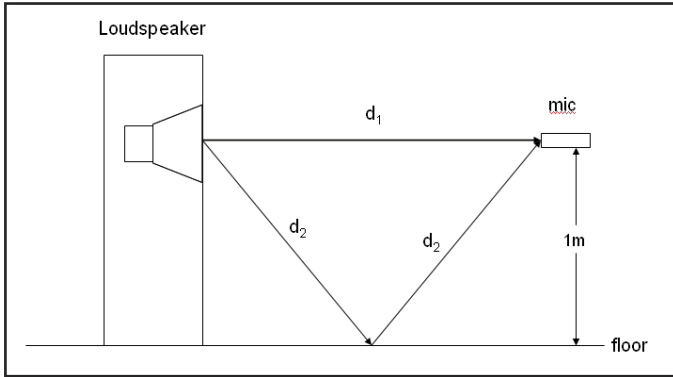

Figure 6: Test setup
*Loudspeaker Frequency Response:* Loudspeaker frequency response is measured using the Log Chirp option. This example will examine the response of a small two-way vented loudspeaker. In the absence of an anechoic chamber, loudspeaker response measurements will invariably be corrupted by later arriving reflections from nearby surfaces. **Figure 6** shows a typical setup a hobbyist designer might encounter. In this example, the MIC-02 microphone is placed on the tweeter axis at a distance of 1 m. The first corrupting reflection will come from the floor bounce.